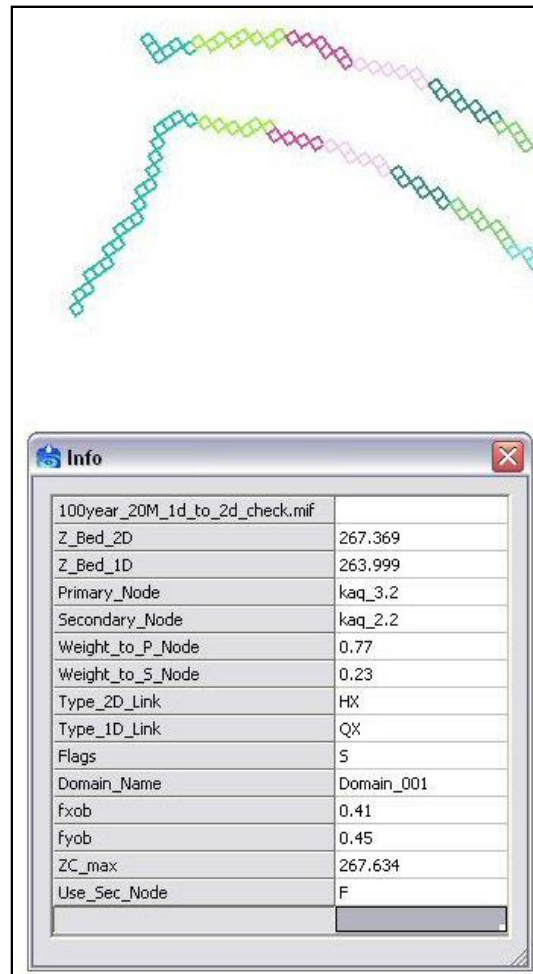

Figure 19 Sample check file
6. An *Info* dialog will come up displaying data about the cell as in Figure 19. This information includes the bed elevations applicable for the 2D and 1D domains at the cell. The elevation of the 1D bed is interpolated from the node upstream and downstream of the cell location. The 1D nodes on each side and weights used are shown in the dialog under *Primary_Node*, *Weight_to_P_Node*, *Secondary_Node*, and *Weight_to_S_Node*.